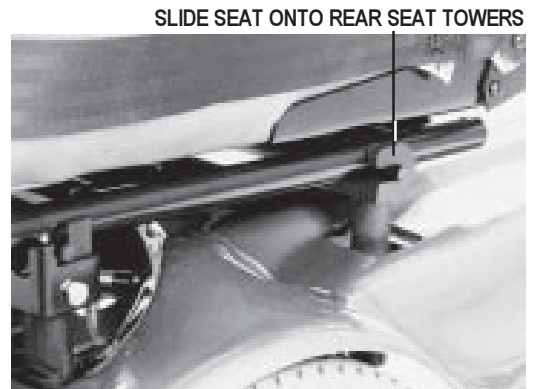

Figure 8. Rear Seat Towers
1. Set the seat on the rear seat towers. See figure 8.